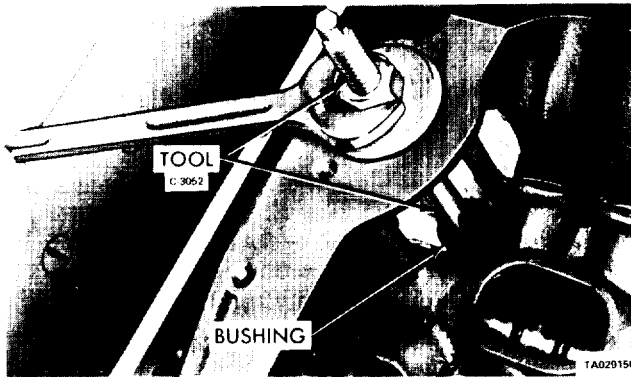

Figure 11-30. Removing Distributor Drive Shaft Bushing.
(1) Insert tool C-3052 into the old bushing and thread it down until a tight fit is obtained (figure 11-30).